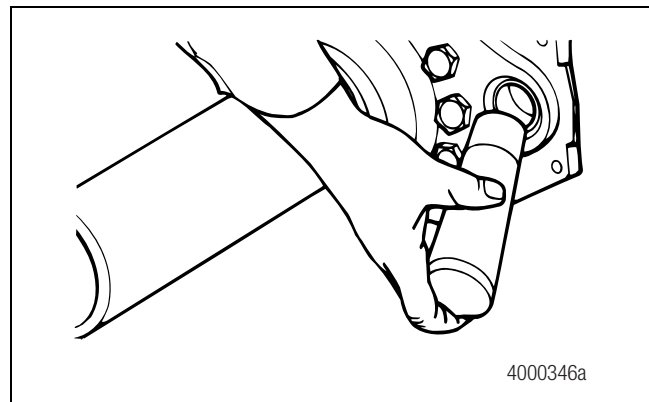

Figure 4.14
- If removed, use a seal driver to install the new camshaft seals and new bushings into the spider and camshaft bracket. Figure 4.14.